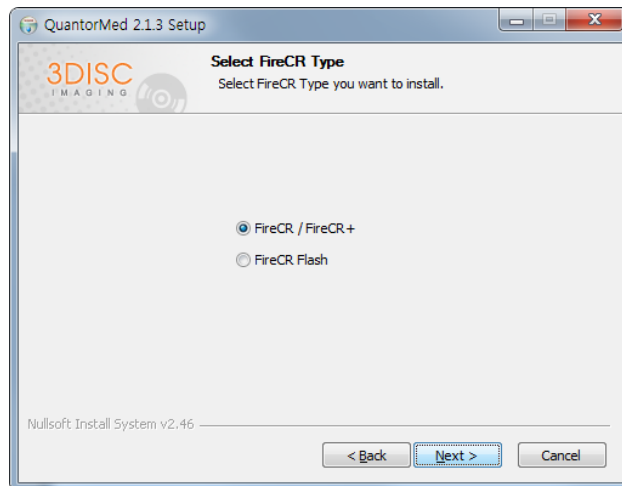

Figure 2.4 FireCR Model Selection Dialog Box
- Choose **FireCR** model and click the "Next" button as shown in Figure 2.4
- Choose Reader Position and click the "Next" button as shown in Figure 2.4